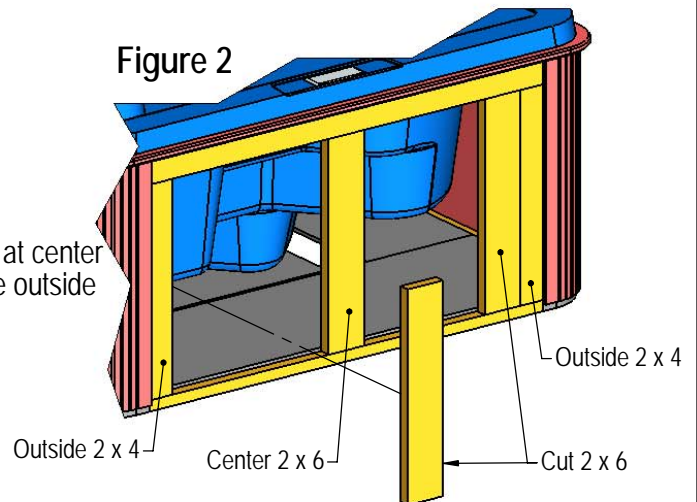

Figure 2
Step 2 - Cut two 2 x 6's to the same length as the existing 2 x 6 at center of frame wall. Butt the two cut 2 x 6's to the existing 2 x 4's at the outside of the frame wall. Toe screw to secure. See Figure 2 at right.